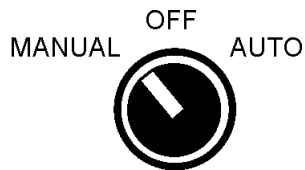

Figure 17. Manual-Off-On SW. (Man Position)
2. For manual operation of the pump, place the 3-position operation switch (Figure 17) on the control box in the **MANUAL** position.